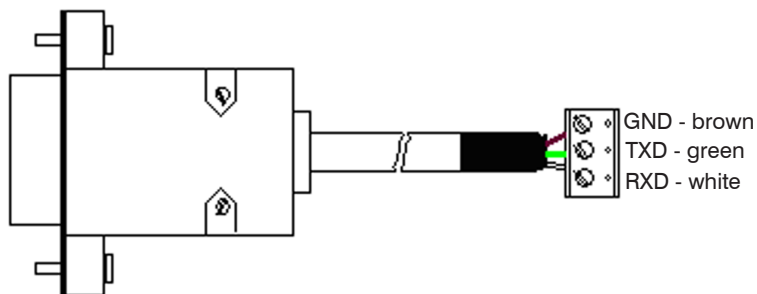

Fig. 17 Pin assignment RS232
- **i** Make sure the wiring is correct according to the drawing and designation printed on the interface board, see Fig. 17.